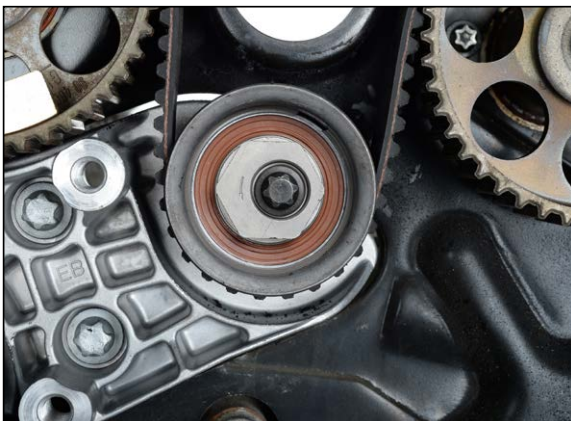
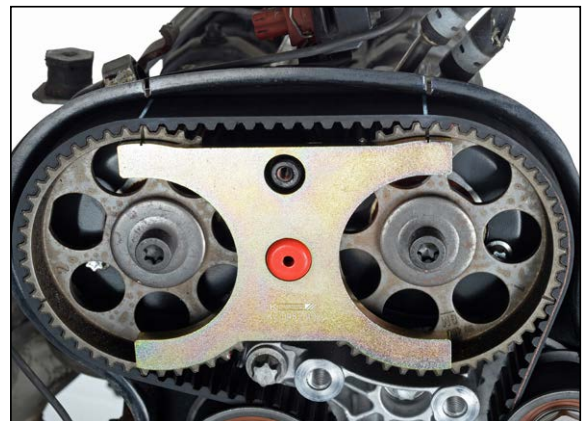

Fig. 21
Fig. 22
11. Turn the cam of the top bend pulley in a counterclockwise direction using chuck key OE (MKM-6038) or water pump pliers (Fig. 21) until the top of the cam is at approx. 9 o'clock position and the markings on the camshaft gears and the inspection gauge OE (KM-800-20) align (Fig. 22). Tighten the top bend pulley with a force of 40 Nm.
16. Attach inspection gauge OE (KM-800-20) to camshaft gears “1” and “2.” Markings on the camshaft gears and the inspection gauge OE (KM-800-20) align (Fig. 22). If the markings do not align, adjust again as under point 11.